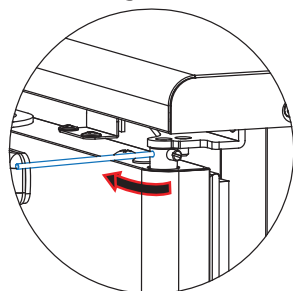

Fig 9-30
2. To remove the tension pin, slightly turn the stick along the direction of the arrow. Maintain the position of the stick by resisting the spring tension. (Fig 9-30)